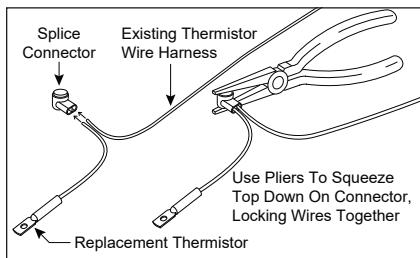

Figure 92 - Splice Connector
- 8 Using a splice connector included in this kit, insert the ends of the wires into the splice connector as shown in Figure 92 on the following page. **DO NOT** strip the insulation from wires. Use pliers to squeeze the top of the connector down, locking the two wires together.
- 17** Using a splice connector included in this kit, insert the ends of the wires into the splice connector as shown in Figure 92. **DO NOT** strip the insulation from wires. Use pliers to squeeze the top of the connector down, locking the two wires together.
- 20** Reinstall the lower access panel to the water heater using the two (2) Phillips head screws.